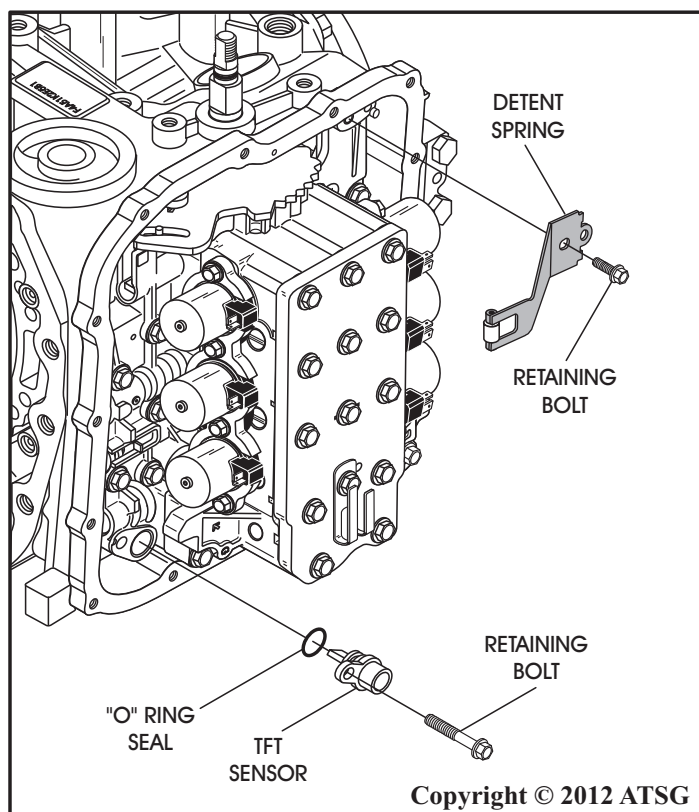

Figure 54
5. Remove the internal detent spring, as shown in Figure 54.
6. Remove the TFT sensor, as shown in Figure 54, remove and discard the "o" ring seal.